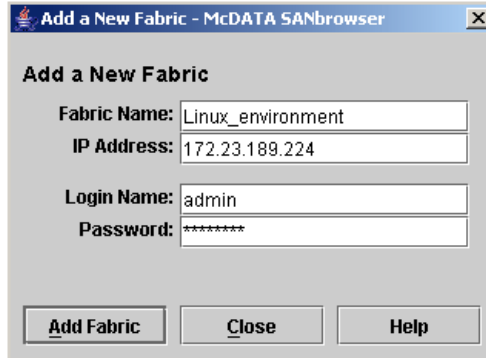

Figure 8-10 Add a New Fabric window
1. To begin, enter the IP address of the McDATA Fibre Channel Switch Module for the IBM eServer BladeCenter into your favorite Web browser. You will see the Java Plug-in Version Check and after several seconds a window similar to Figure 8-10 on page 235.